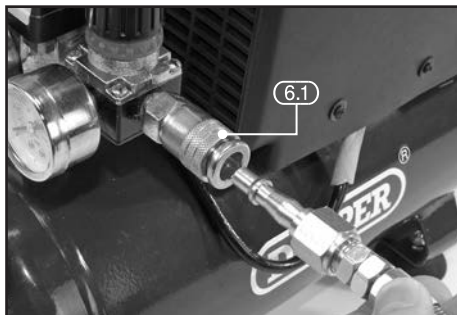

FIG.5
9.1 BASIC COMPRESSOR OPERATION – FIG. 5
- Connect the air line to the compressor by pulling back the collar (6.1) on the air outlet quick coupling (6) and inserting the corresponding air coupling fitted on the air line. Release the collar so it slides back in place to secure the air coupling.
- Turn the air regulator clockwise to its lowest setting and turn on the compressor by lifting the pressure switch On/Off button (3) upwards.
- Once the compressor has reached maximum pressure, open the regulator valve (5) to the desired pressure on the air outlet regulator gauge (9).